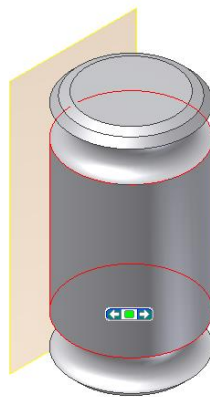

Figure 12: Mallet with work plane tangent to it
8. Click on the circumference of the mallet so the work plane will be made tangent to it (Fig. 12).